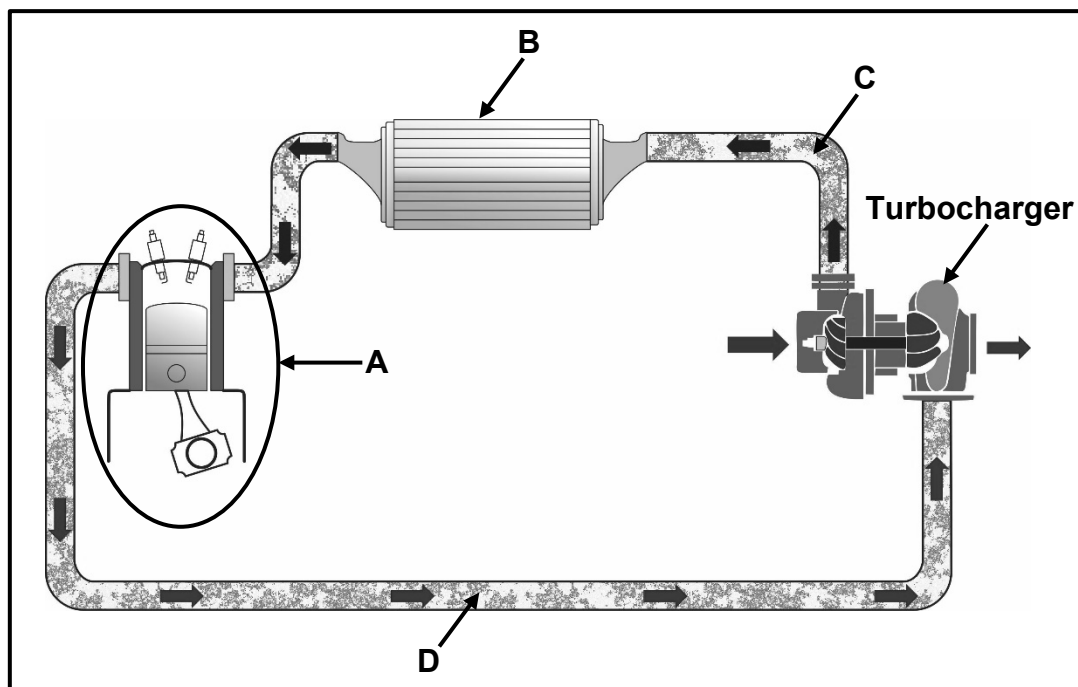

FIGURE 6.7
6.7 FIGURE 6.7 below shows how a turbocharger is connected to an internal combustion engine. Answer the questions that follow.